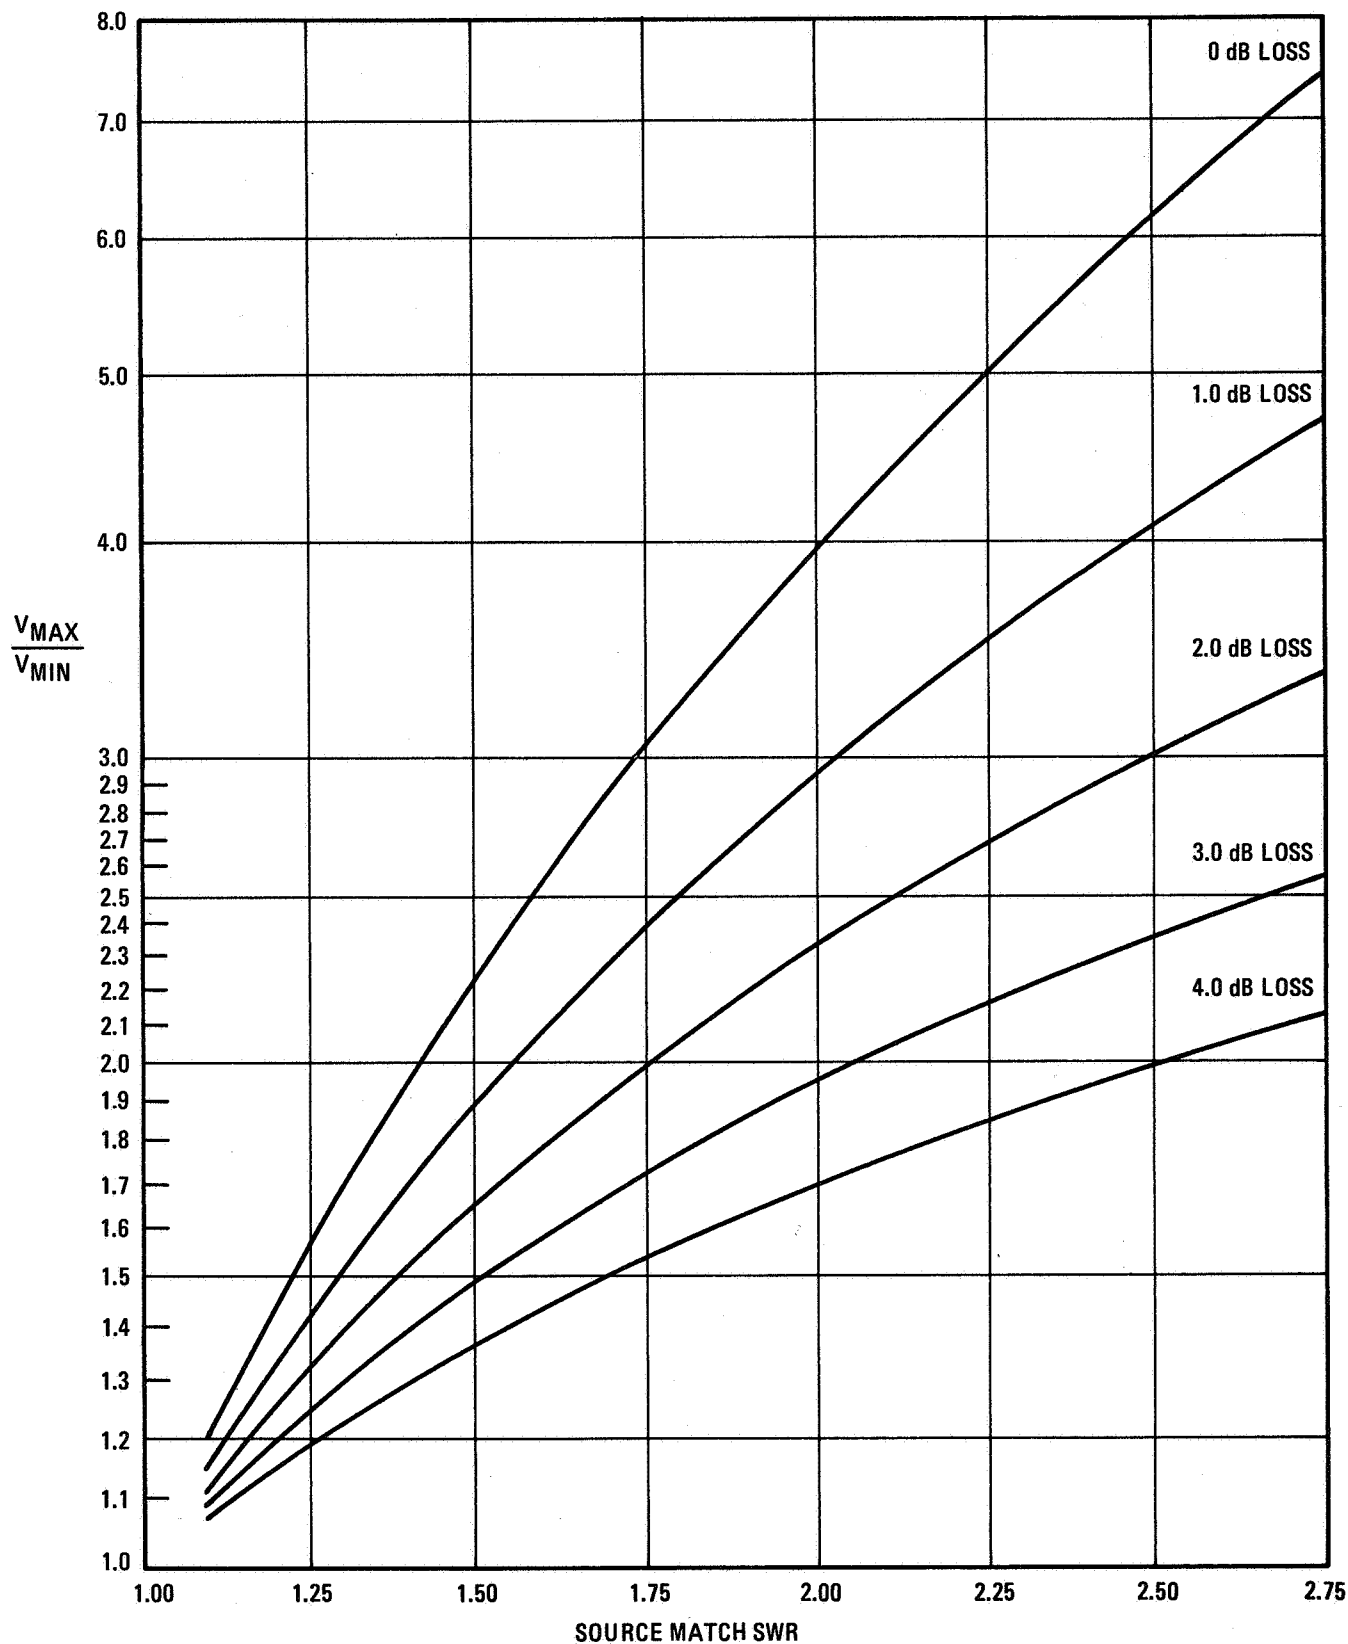

Figure 4-13. Conversion of Oscilloscope Trace to Source Match SWR
6. Convert  $V_{MAX}/V_{MIN}$  ratio noted in step 5 into source match SWR, using Figure 4-13 and the cable loss calculated in step 5. The SWR should be less than noted on the performance test card step 6.
11. Convert greatest  $V_{MAX}/V_{MIN}$  ratio noted in step 10 into source match SWR using Figure 4-13 on the 0 dB loss line. The SWR should be less than noted on the performance test record card step 11.